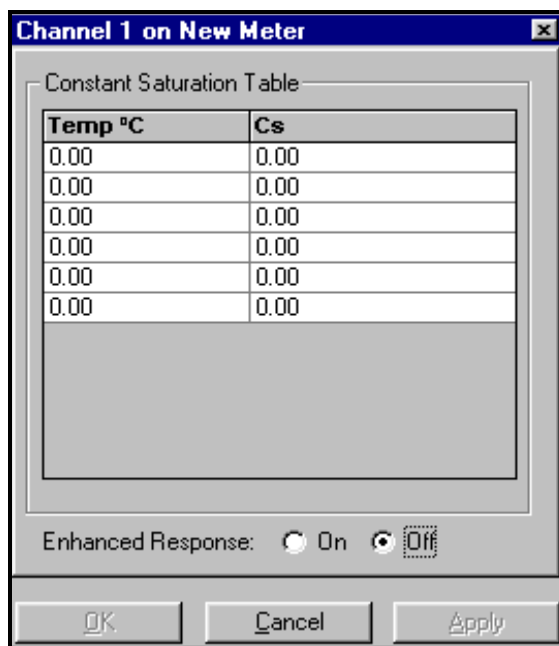

Figure 4-10: Constant Saturation Table
2. From the “*Edit*” menu, select the “*Properties*” option. The “*Constant Saturation Table*” window appears, as shown in Figure 4-10 below.